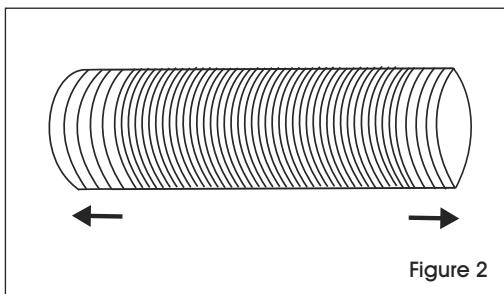

Figure 2
1. Extend either side of the hose. (See Figure 2)